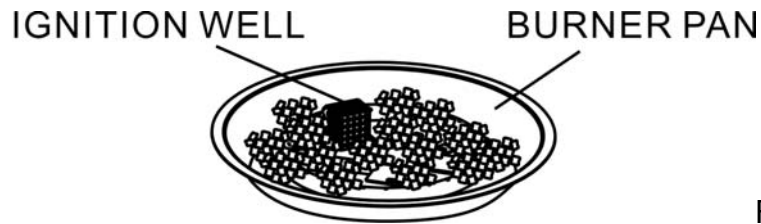

Figure 5
4. Pour ALL of the provided media(fire ice) into the burner pan. Burner MUST be completely covered to ensure the appliance functions properly and safely. Remove any lava rocks or fire ice on top of the ignition well. See figure 5.